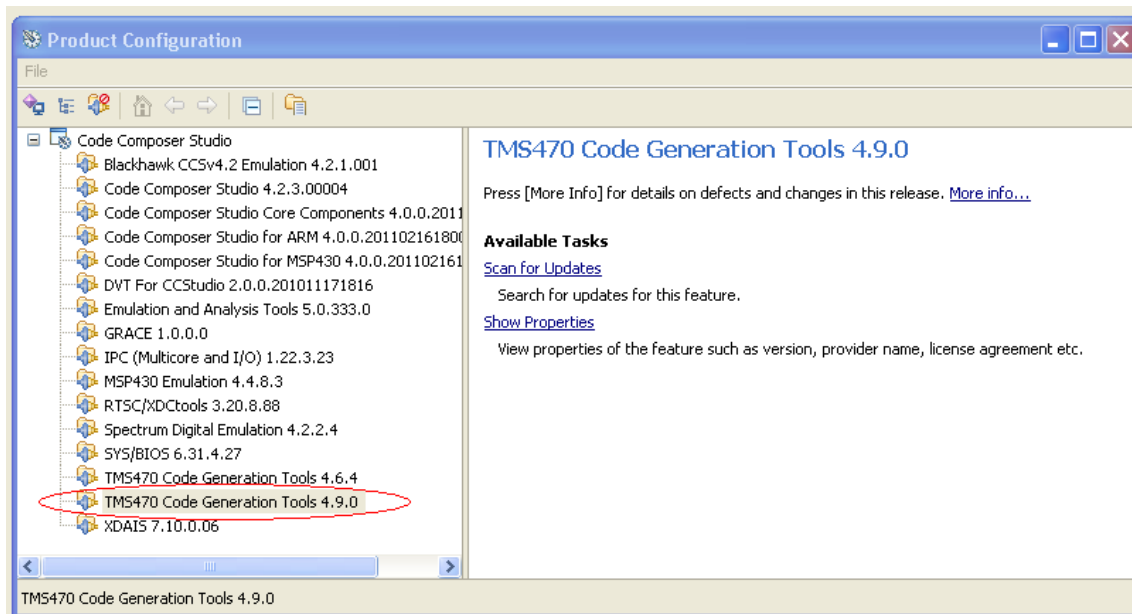

Figure 9. Checking Update Options
4. Confirm that Code Generation Tools v4.9 has been successfully installed as shown in the red circle in Figure 9.